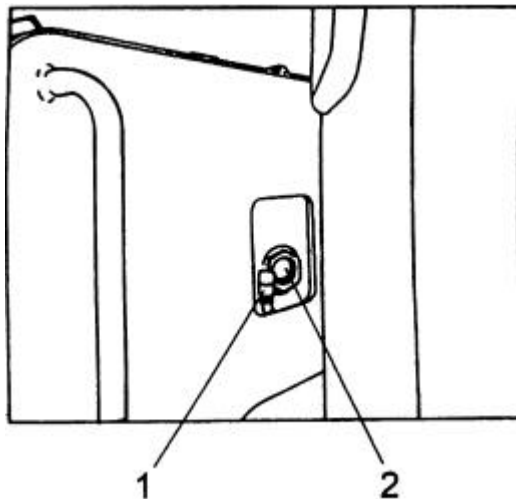

Fig. 5.48. Hydraulic Tank Sight Gauge
16. Fill the reservoir with clean fluid until the ball in sight gauge (2, Fig. 5.48) reaches the top of the gauge, refer to REFILL SPECIFICATIONS AND CAPACITIES CHART.